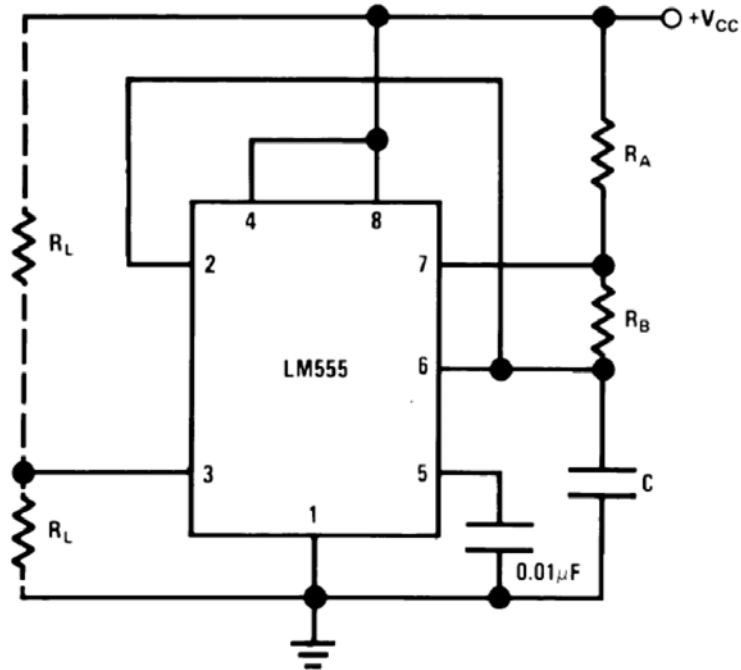

Figure 1 - Schematic for running the LM 555 as square-wave generator.
This paper presents a design procedure for configuring the LM 555/556 IC as a square-wave oscillator (a.k.a. the astable multivibrator). The 555 is a multi-purpose chip that will operate at DC power supply potentials from $V_{CC} = +5$ Vdc to +18 Vdc. The schematic for the LM 555/556 square-wave generator is shown in figure 1. Our objective is to determine values for the capacitor C and the resistors R_A and R_B .
Step 2). Choose a duty cycle in the range of 55% - 95%. Do not choose a value near 50%. If you require a duty cycle of 50%, you will have to use a different circuit configuration than the one shown in figure 1 (see the discussion at the end of this article). If we denote the the duty cycle by the variable d , then a duty cycle of say 65% corresponds to $d = 0.65$.